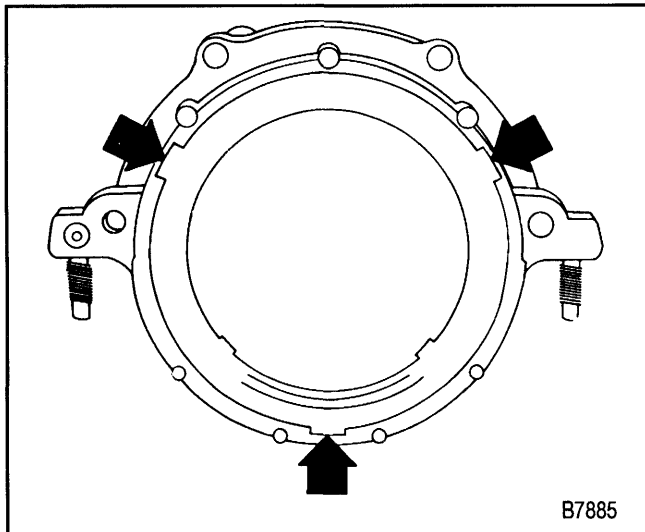

Figure 25—Seal Removal Notches
Remove or Disconnect (Figure 25)
3. Crankshaft rear oil seal. Insert a screwdriver into the notches provided in the seal retainer and pry the seal out (figure 25). Do not damage the crankshaft sealing surface.
Remove or Disconnect (Figures 25, 26, and 27)
4. Screws (80) and nuts (81).
5. Seal retainer (82).
6. Gasket (84).
7. Crankshaft rear oil seal. Insert a screwdriver into the notches provided in the seal retainer and pry the seal out (figure 25).
Install or Connect (Figures 25, 26, and 27)